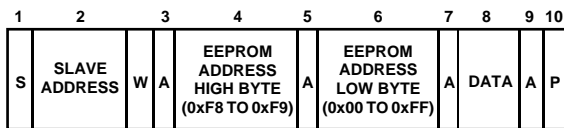

Figure 32. Single Byte Write to EEPROM
3. To write a single byte of data to EEPROM. In this case the command byte is the high byte of the EEPROM address from 0xF8 to 0xF9. The first data byte is the low byte of the EEPROM address and the second data byte is the actual data. This is illustrated in Figure 32.